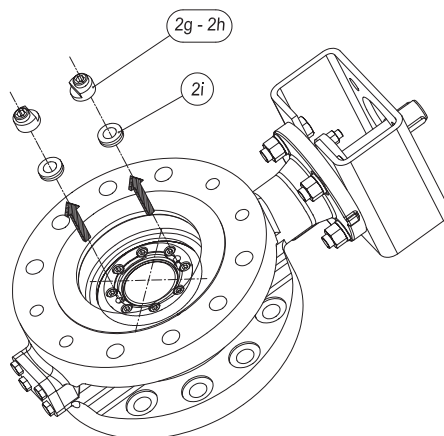

FIGURE 9
6. Remove the locking nuts (2h), with the grub screws (2g) and the loosening washers (2i) - figure 9: